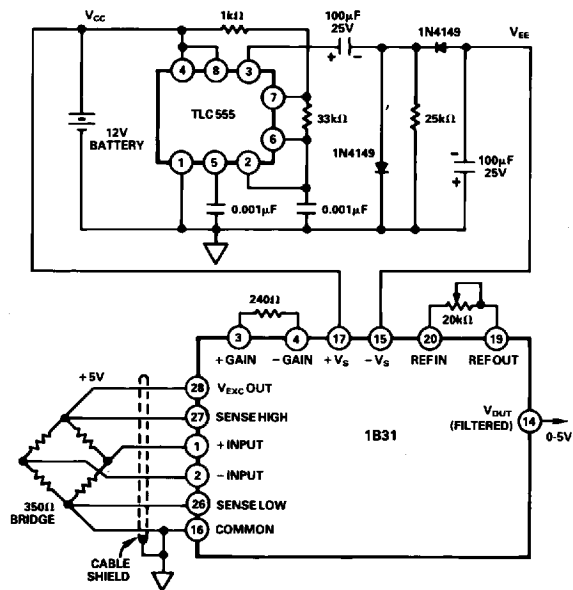

Figure 18. Negative Supply Generation for 1B31
**Mobile Transducer Application:** The small size and reliability of the 1B31 make it an ideal choice for mobile applications. Since the 1B31 requires a negative supply, one possible solution for its generation is shown in Figure 18. The positive voltage of a +12V battery is used to drive a CMOS TLC555 oscillator with a typical supply current of 360µA. The output is a square wave that is rectified by the diodes and filtered to provide a -9V supply. Excitation voltage should be equal to or less than +9V for adequate headroom for the 1B31 voltage regulator.